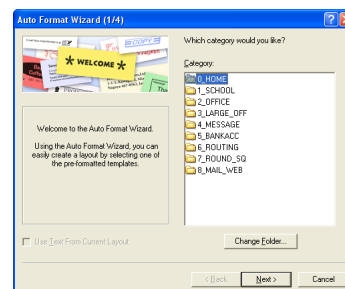

figure 1
- ❶ Click the Auto Format button on the Standard toolbar, or select the Auto Format command in the File menu.
- ❷ Select a category, and then click the Next button (see figure 1).